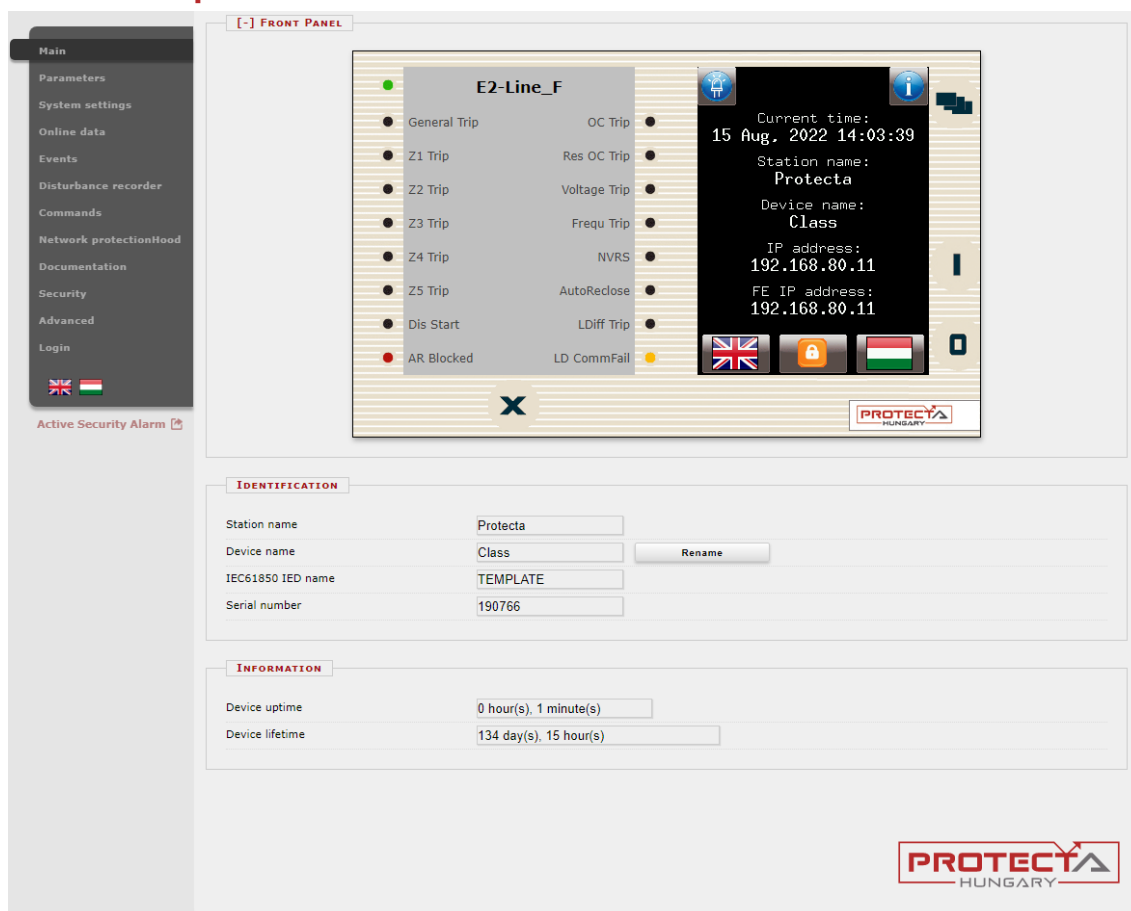

Figure 4-5 Main menu
The front panel of the device can be controlled from here (Figure 4-5). The image in the center of the screen acts/responds in the same way as the touch screen and the LEDs, except the on (1) and the off (0) buttons. These two buttons are inactive for security reasons.